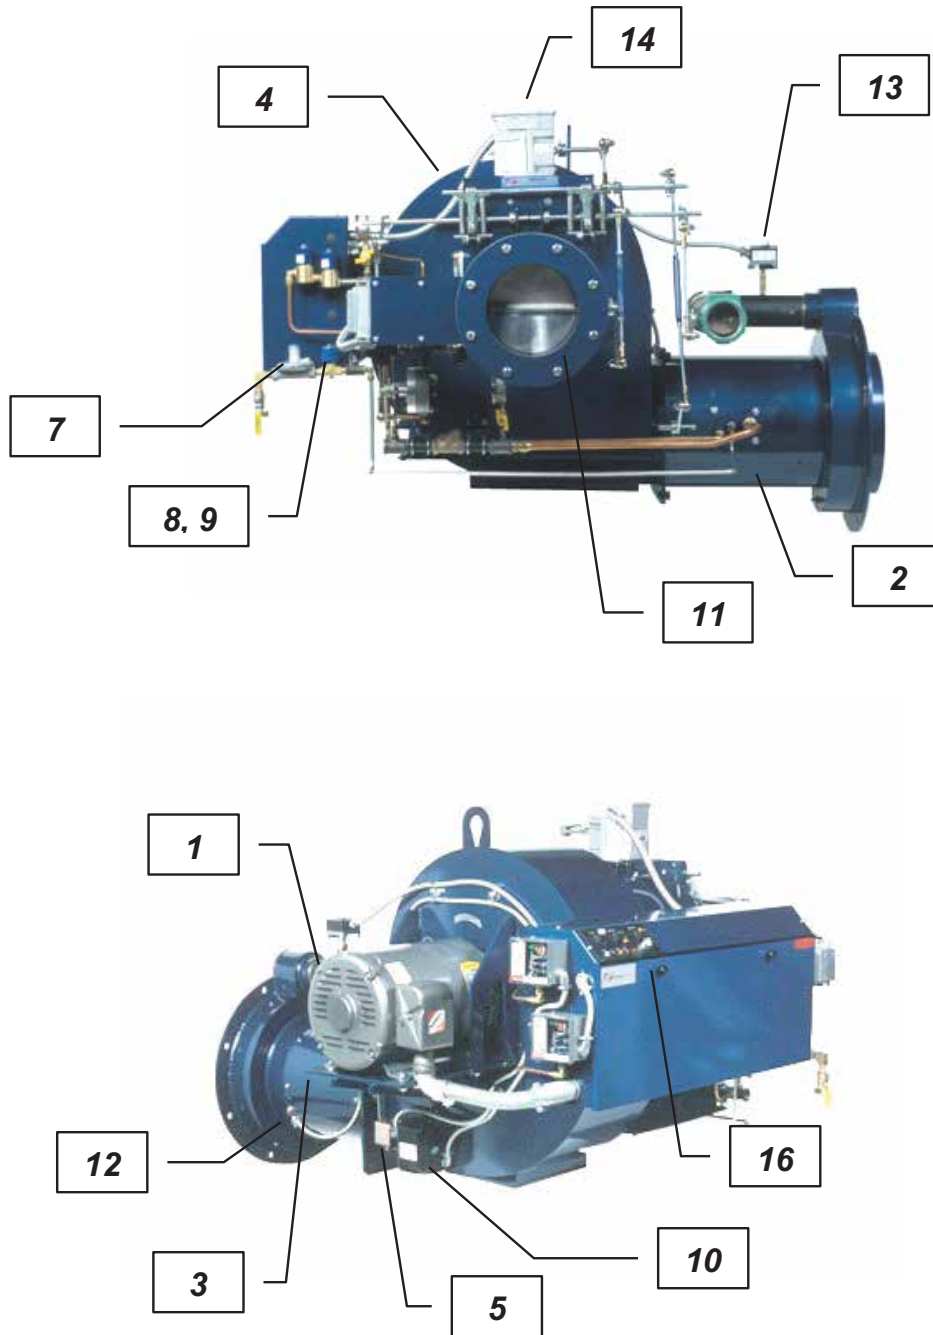

Figure 1: Burner Component Identification typical for model CMR-GO
1.5.4 Parts list (refer to figure 1):